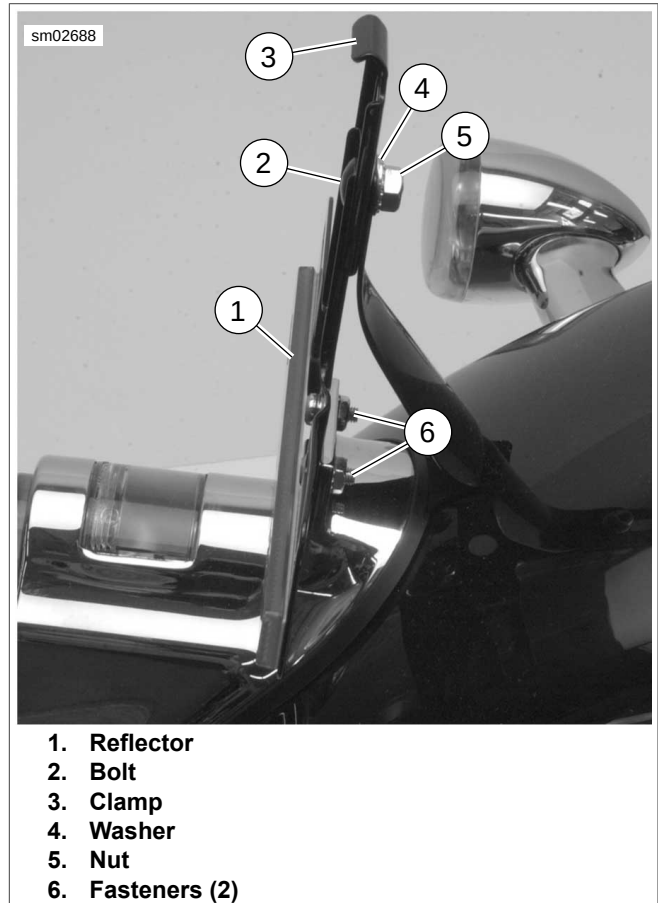
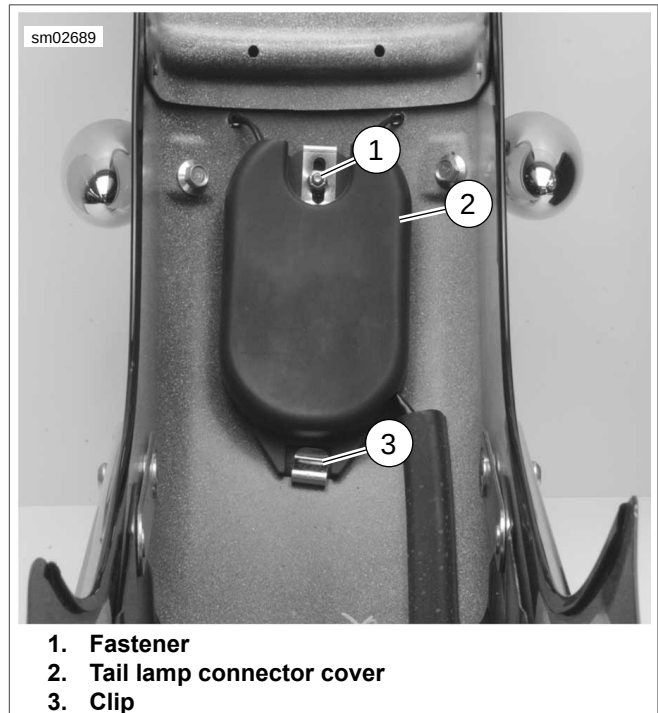

Figure 7-40. License Plate Bracket
Figure 7-41. Tail Lamp Connector Cover
2. See Figure 7-40. Remove reflector (1). Remove license plate bracket fasteners (6).
3. Remove bolt (2), washer (4) and nut (5) securing clamp to license plate bracket.
4. See Figure 7-41. Remove fastener (1). Disengage tail lamp connector cover (2) from clip (3).
14. Figure 7-41. Slide tail lamp connector cover (2) into clip (3). Install fastener (1) and tighten to 8-30 **in-lbs** (0.9-3.4 Nm).
15. See Figure 7-40. Place license plate bracket in place on tail lamp. Install but do not tighten license plate bracket fasteners (6). Install clamp (3). Install bolt (2), washer (4) and nut (5).